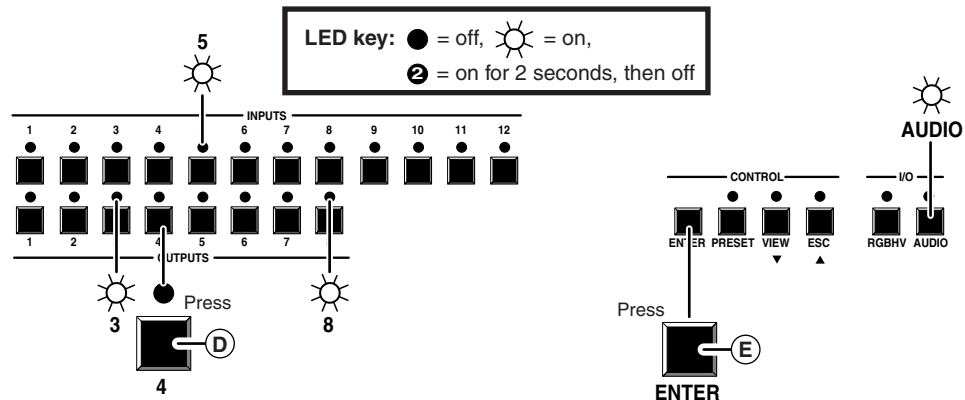

Figure 3-8 — Example 3, step d: Removing an audio tie
- (D) Press and release the output 4 button (figure 3-8). The output 4 LED turns off, while the output 3 and output 8 LEDs remain lit.